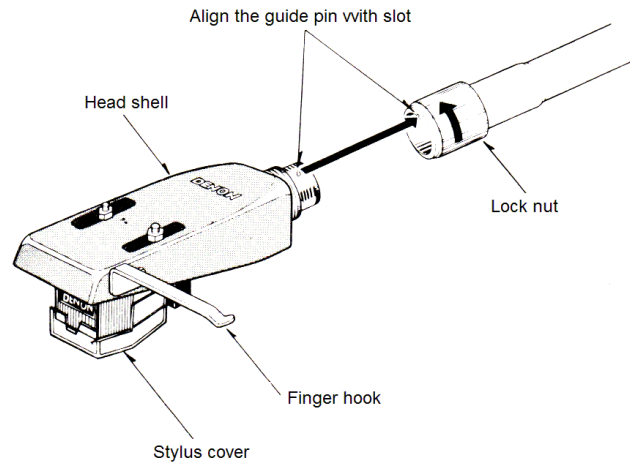
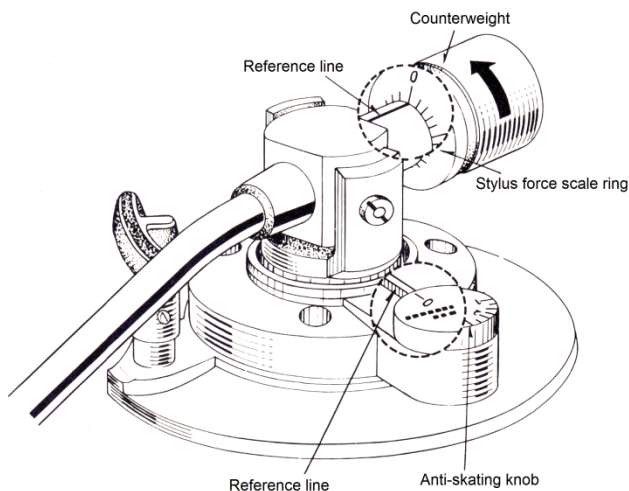

Fig. 6 Attaching head shell
Fig. 9 "0" Setting
- (1) As shown in Fig. 6, align the guide pin with the slot at the tonearm end and insert.
- (2) Turn the lock nut in the arrow direction in Fig. 6 until it stops and fix the head shell to the tonearm.
- (3) For removing the head shell, turn the lock nut in the opposite direction of the arrow and gently pull it off.
- (1) Turn the power switch ON (  ).
- (2) Press either "33" or "45" speed selection button. Make sure the arm lifter is down and then turn OFF the power switch.
- (3) Turn the anti-skating knob and set "0" to the reference line as in Fig. 9.
- (4) Remove the stylus cover of the cartridge
- (5) See Fig.10 and unlock the arm clumper. Hold the finger hook of the head shell (Fig. 6) with your fingers and remove the tonearm from the arm rest.
Turn the counterweight in the arrow direction in Fig. 9
Turn the counterweight in the opposite direction of the arrow in Fig. 9